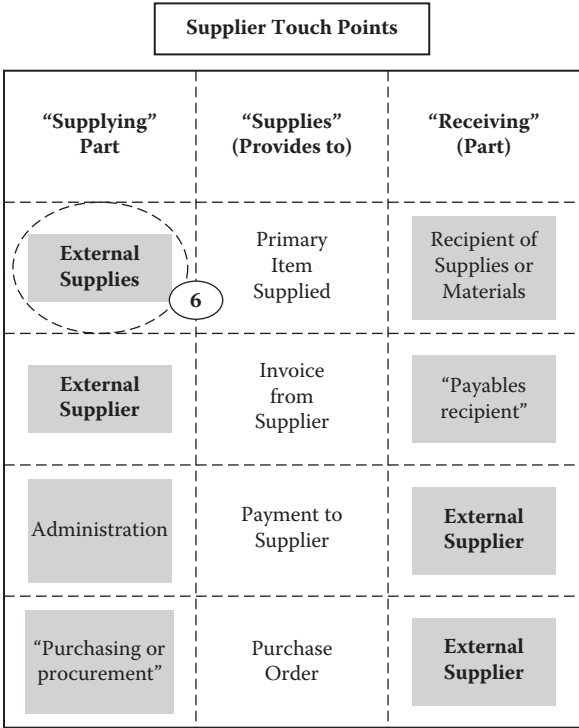

Figure 4.11 Typical external supplier–customer relationships for Order to Delivery.
6. Define the **external** supplier–customer relationships, starting with the **external supplier**. This will help you identify the supply chain (Figure 4.11).